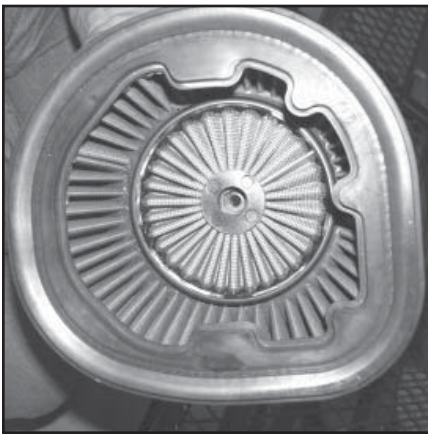

Fig. 1
3. Install the base of the new K&N Air Filter following the contours of the air filter plate. (Fig. 1)